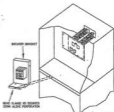

FIG. 3 HB3000 - HB6000 HEATER INSTALLATION
- ii) On HB3000 - HB6000 units mount the circuit breaker bracket on the left side corner of the cabinet shelf. Manually bend the bracket perforated flange 90 degrees down (see fig. 3 ). Secure bracket to cabinet shelf with [2] screws provided.